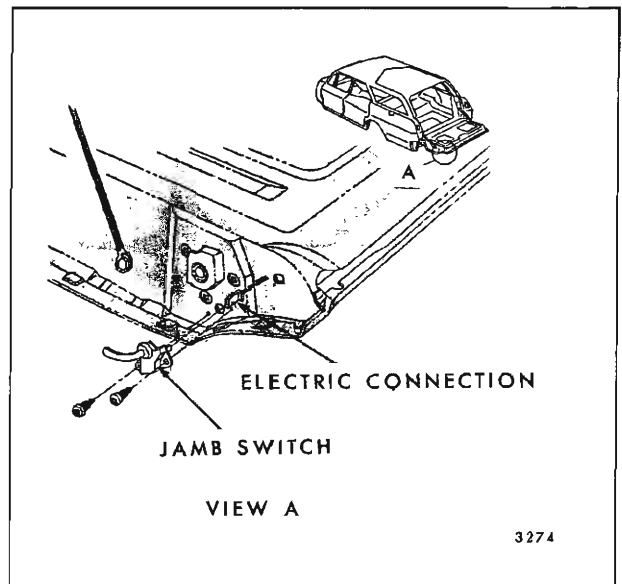

Fig. 9-42—Tail Gate Jamb Switch
**NOTE:** On styles equipped with power operating tail gate windows, engage jamb switch (Fig. 9-42) and operate window to position desired. Engaging the tail gate jamb switch makes it possible to operate the window (by key switch) with the gate in the open position.